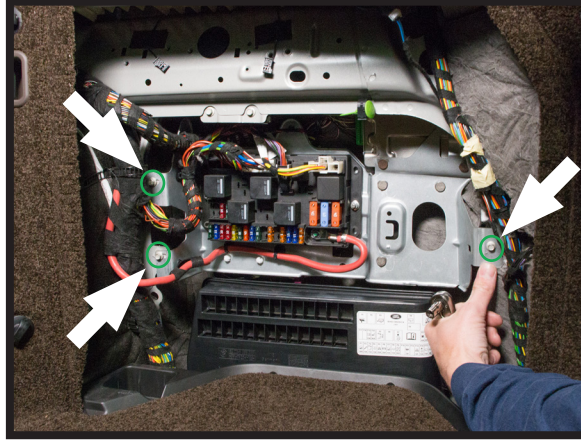

FIGURE 69
2. REMOVE THE (3) SCREWS HOLDING THE FUSE PANEL IN PLACE TO ACCESS THE REVERSE SIDE. (FIGURE 69)